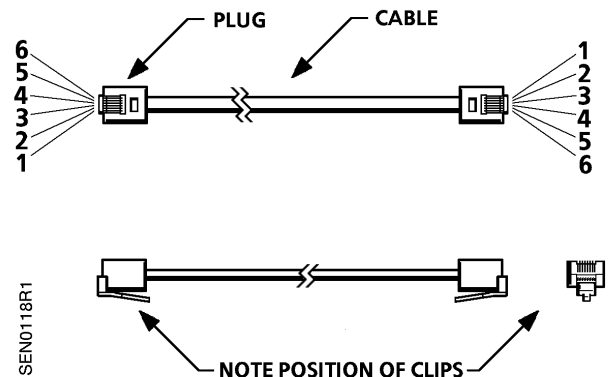

Figure 3: Terminating the Sensor Cable
2. Using the room sensor connector tool, attach an RJ-11 plug to both ends of the field cable. Align the six wires in the same order on the connectors at both ends of the cable. See Figure 3.